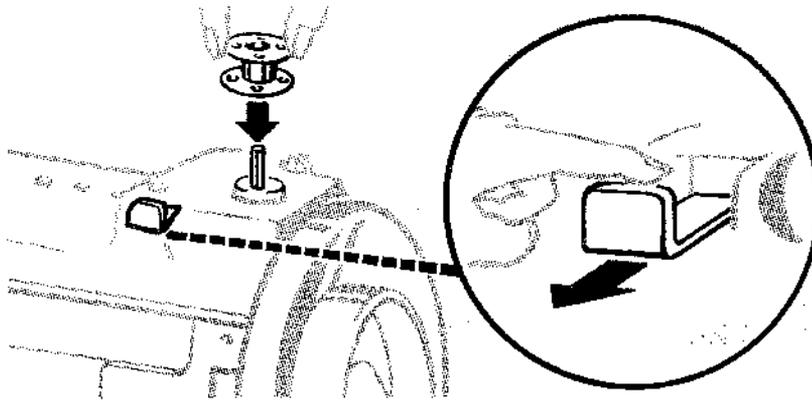

FIG. 12.
- Pull out bobbin winder engaging slide as shown in Fig. 12.